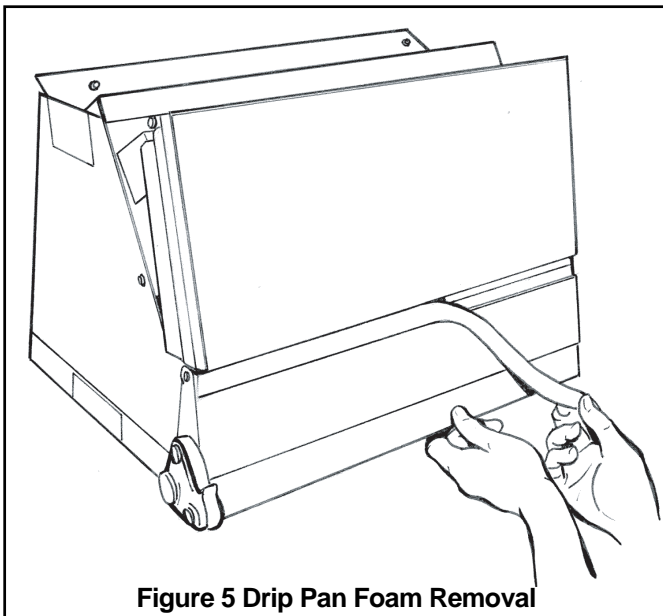

Figure 5 Drip Pan Foam Removal
- a. **For maximum efficiency**, the horizontal drip tray should be removed. See Figures 5, 6 and 7.
- a. **For maximum efficiency**, the horizontal drip tray should be removed. See Figures 5, 6 and 7. Tray removal requires that the coil be removed by sliding the coil out on the coil channel supports. For the TEE3F40-65 units, there is a coil support tab at the top of the coil connected to the case that must be removed first. Remove 1 inch insulation strip covering the lip of the drip pan. The tray is detached by removing the two screws at the drain pan and the two screws holding the two brackets at the top of the coil. Remove drip tray by gently breaking the seal between the drip tray and drain pan.